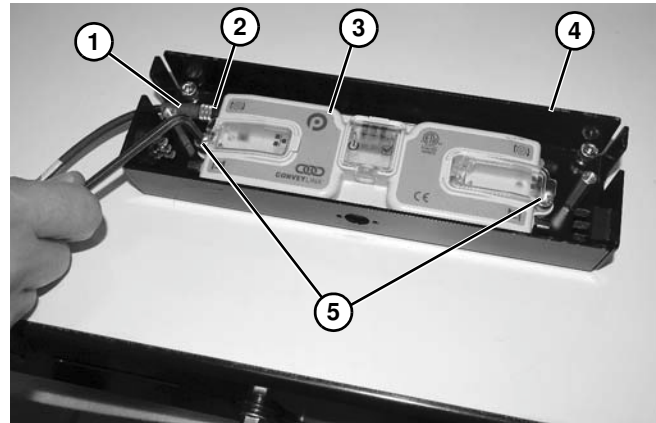

Figure 32
2. Attach end (Figure 32, item 1) of motor wiring to threaded end (Figure 32, item 2) on controller.
3. Install controller (Figure 32, item 3) onto bracket (Figure 32, item 4) with two screws (Figure 32, item 5).